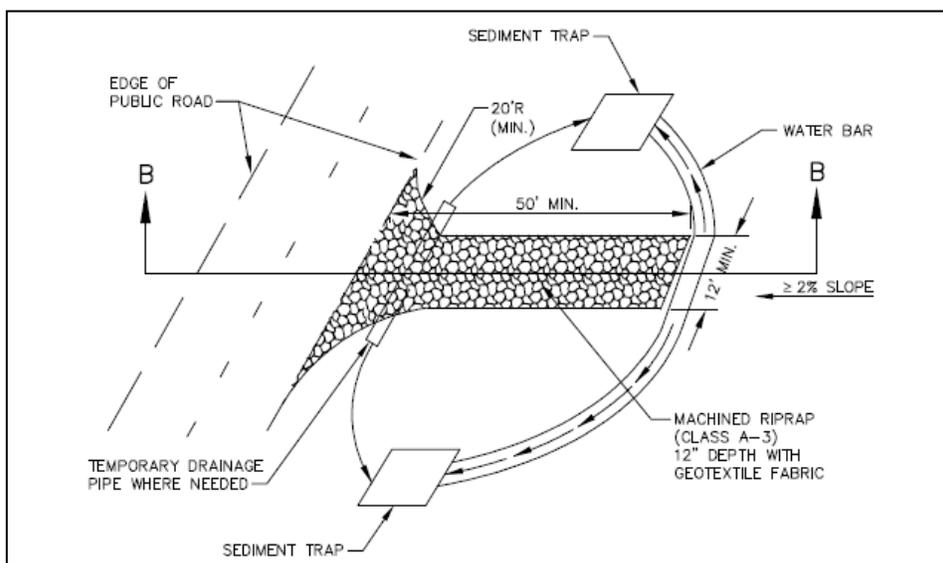

Figure 7.28-1 Construction Exit with Water Bars
- The stone pad should be constructed from clean, washed stone with a 2 inch to 4 inch gradation at a minimum thickness of 8 inches. At a minimum, the stone pad should be 50 feet long and 20 feet wide. In addition a turning radius of 20 feet should be provided on each side of the pad where it intersects with the public roadway. See Figures 7.28-1 and -2.
On sites where the grade toward the public roadway is greater than 2%, a waterbar diversion 6 to 8 inches in depth with 3:1 side slopes should be constructed at the upper end of the construction exit to prevent stormwater from washing sediment off the construction exit and into the public roadway or storm drain system. See Figure 7.28-1. Other devices, such as berms also may be used to divert stormwater from flowing down the construction exit and onto the public ROW.